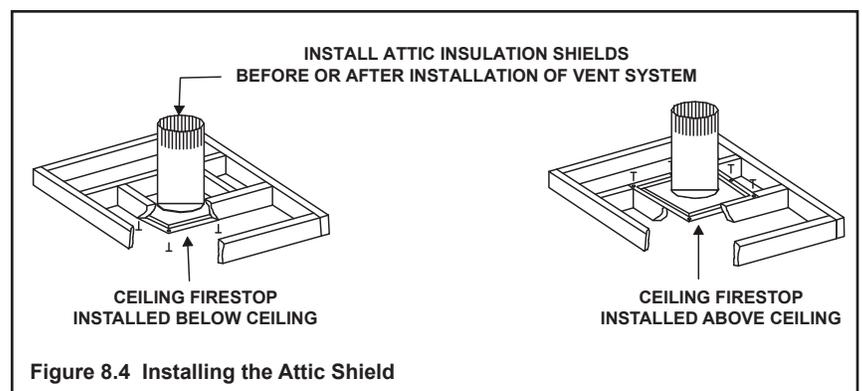

Figure 8.4 Installing the Attic Shield
- The ceiling firestop may be installed above or below the ceiling joists when installed with an attic insulation shield. It must be under joists between floors that are not insulated. Refer to Figure 8.4.